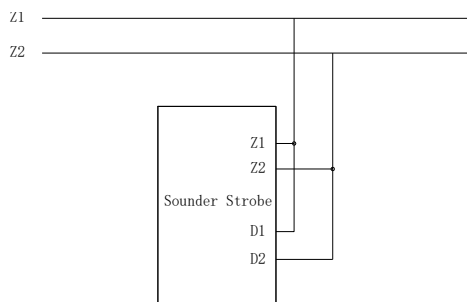

Fig. 5
- Fig.5 shows that the sounder strobe is loop-powered.